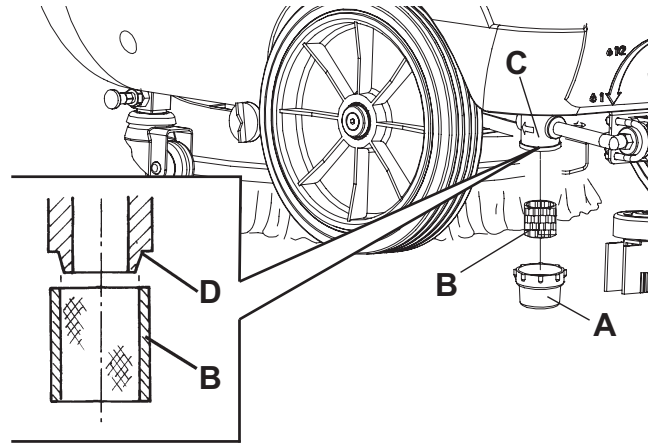

Figure 8
1. Empty the solution tank (32) as shown in the relevant paragraph.
4. Remove the transparent cover (A, Fig. 8), then remove the filter strainer (B). Clean and install them on the support (C).